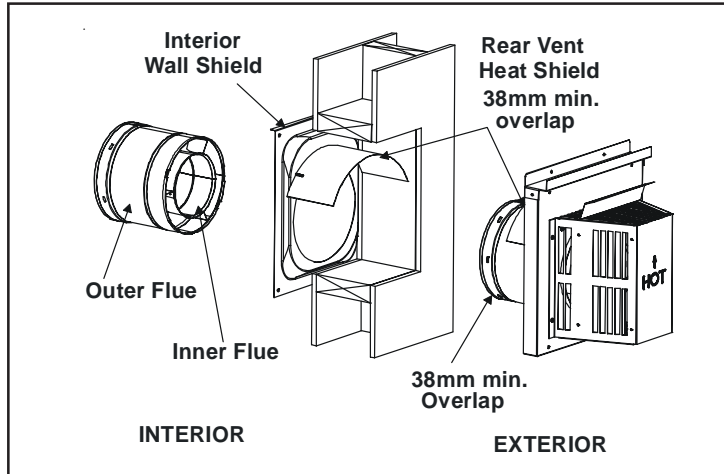

FIGURE 34. Venting through the Wall
- One section of the heat shield is attached to the wall shield. The other is attached to the termination cap in the same manner (see Figure 34).
- The heat shield sections will overlap to match the wall thickness (depth). The small leg in the shield rests on top of the flue to properly space it from the pipe section (see Figure 34).